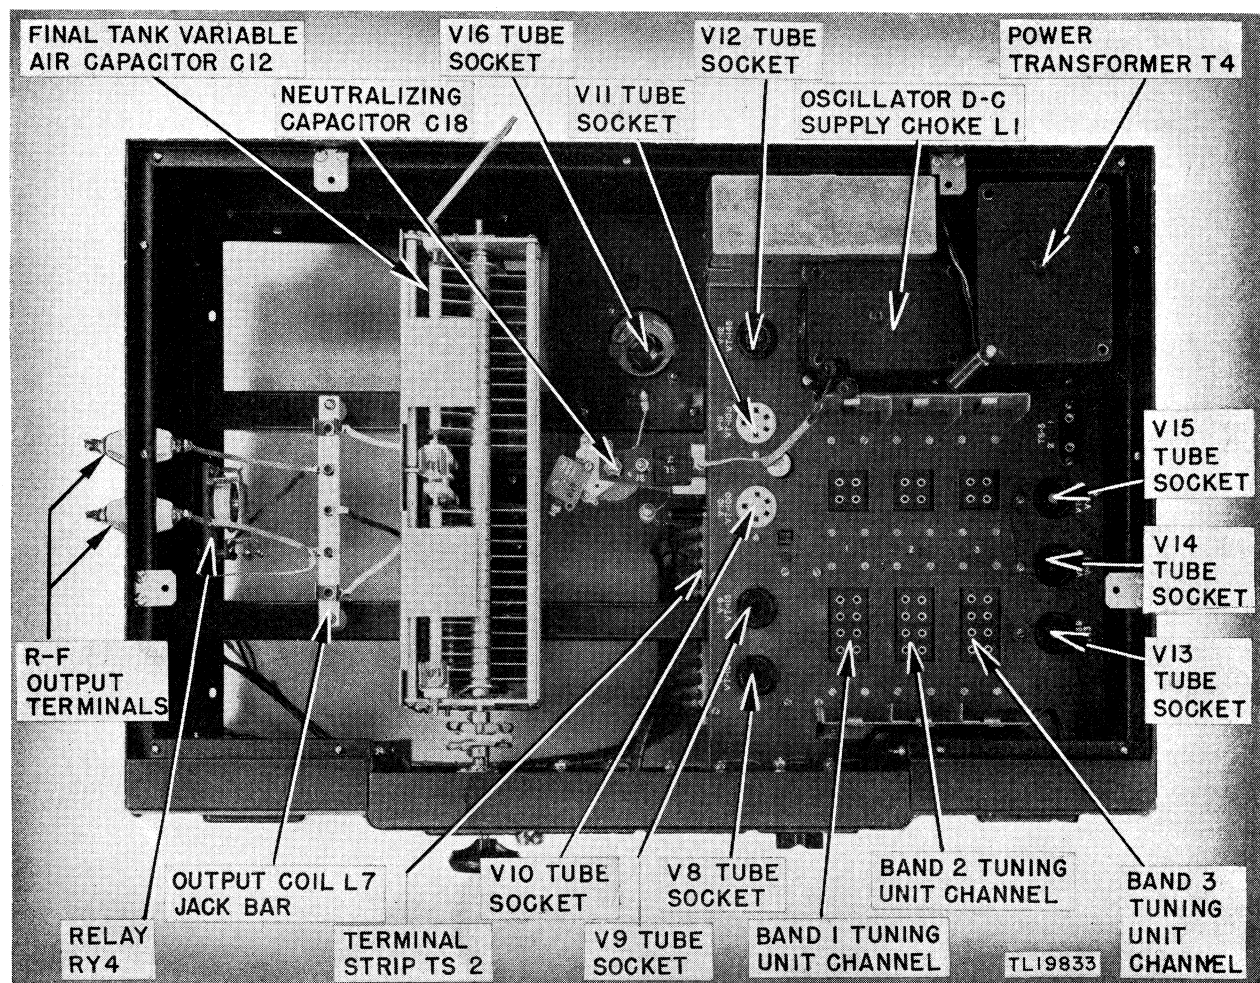
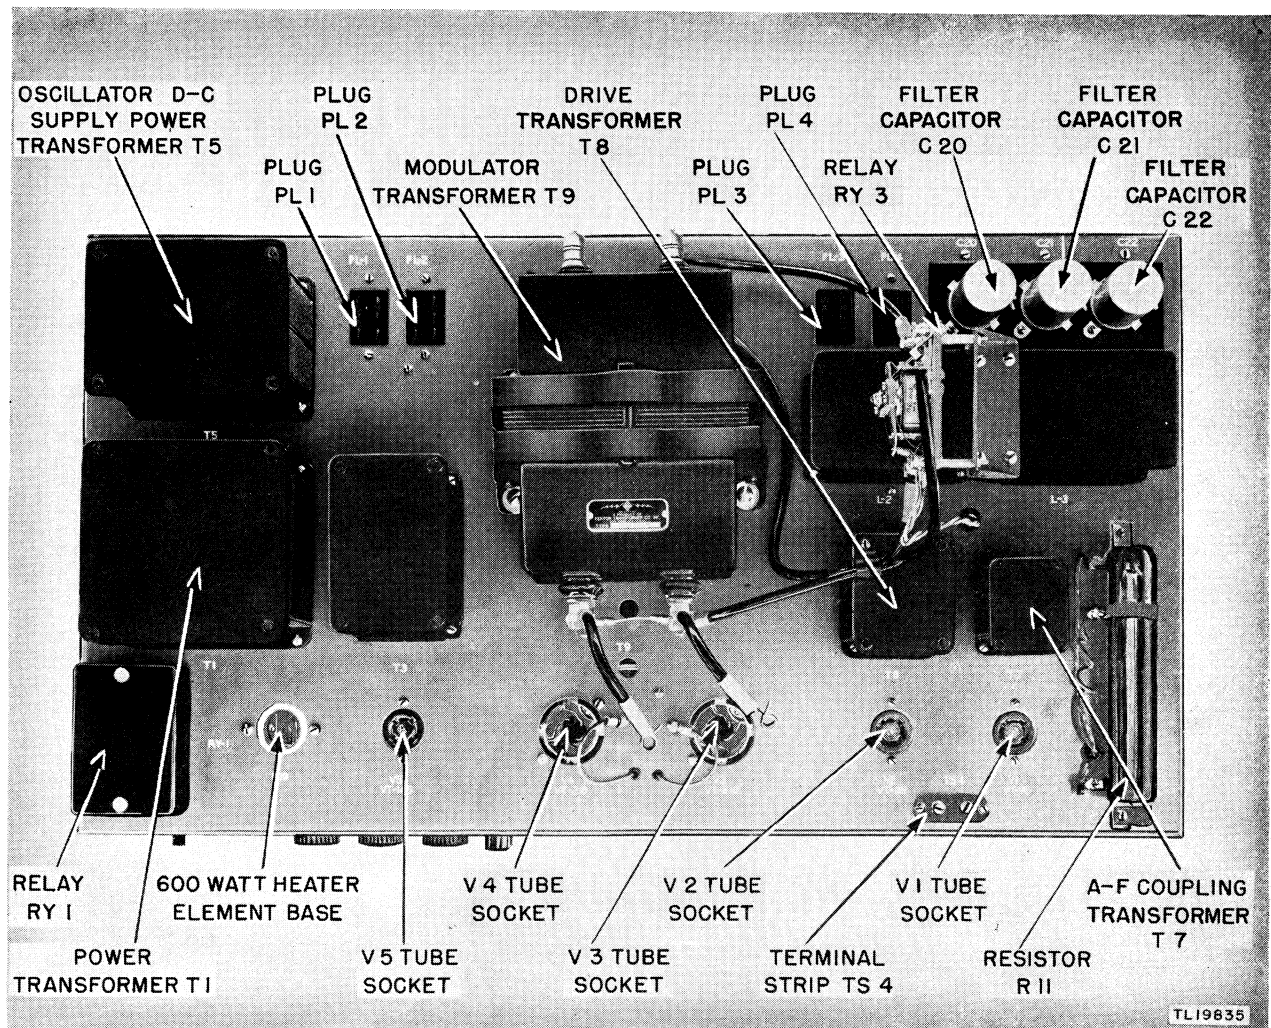

Figure 9. Radio Transmitter BC-610-A, -B, -C, and -D, r-f section, top view, less tubes, tuning units, coil unit, and vacuum capacitor.
Figure 11. Radio Transmitter BC-610-A, -B, and -C, modulator section, top view.
<p>ABCD</p> <p>M2, according to position of switch SW9, indicates plate current of buffer-doubler tube V9, and intermediate-amplifier tubes V10 and V11. (See figs. 9, 42, 43, and 44.)</p>	<p>E</p> <p>M2 (switch SW9 is not present) indicates plate current of p-a tube V16. (See figs. 9 and 45.)</p>
<p>ABCD</p> <p>M3 indicates filament voltage for p-a Tube V16. (See figs. 9, 42, 43, and 44.)</p>	<p>E</p> <p>M3 indicates same as ABCD. (See figs. 9 and 45.)</p>
<p>ABCD</p> <p>M5 indicates plate current of p-a tube V16. (See figs. 9, 42, 43, and 44.)</p>	<p>E</p> <p>M5 is omitted. (See fig. 45.)</p>
<p>ABCD</p> <p>Connection between resistors R26 and R27 is made through terminal 4 of terminal strip TS2 on models A and B, whereas the resistors are directly connected on models C and D. (See figs. 9, 42, 43, and 44.)</p>	<p>E</p> <p>Due to different meter arrangement, meter shunt resistors R28 and R33 are used in addition to resistors R26 and R27, and all four resistors are connected to socket SO11. (See fig. 45.)</p>
<p>ABCD</p> <p>Connection to terminal strip TS2 from the upper control panel for terminals 5, 6, 7, 8, 9, 10, 11, and 12 are made directly. (See figs. 9, 42, 43, and 44.)</p>	<p>E</p> <p>Connections to terminal strip TS2 from the upper control panel for terminals 5, 6, 7, 8, 9, 10, 11, and 12 are made through plug PL11 and socket SO11. (See fig. 45.)</p>
a. TUBES. (1) Tube JAN-250TH (V16) (VT-220) (fig. 9) and Tubes JAN-100TH (V3 and V4) (VT-218) (figs. 11 and 12). To remove tubes, disconnect grid connection from side of tube, and plate spring clip from top of tube; turn the tube counterclockwise until unlocked, and lift out of socket.
(2) *Tubes JAN-807 (V10 and V11) (VT-100) (fig. 9).* To remove tubes, disconnect plate spring clip from top of tube and lift tube out of socket. On Radio Transmitter BC-610-E, disconnect base clamps before lifting tube out of socket.
(4) *All other tubes (figs. 9 and 11).* To remove tubes, just pull them out of sockets.
b. OTHER PLUG-IN PARTS. (1) *Vacuum capacitors (figs. 9, 15, and 16).* To remove, grasp firmly the glass shell, but do not press excessively; release from spring clips, one clip at a time.
(7) *Plugs (figs. 11, 12, and 13).* To remove, grasp plug and pull out. Do not grasp the cord.
a. ACCESS TO CHASSIS. (1) Disconnect the pair of leads connected to TS5 on the r-f section.
b. PREPARATION FOR REPAIR WORK ON R-F SECTION (figs. 9 and 10). (1) Disconnect four wires which are tied into a small cable from the terminal strip TS1 on the r-f chassis apron.
(2) Disconnect both leads from the P. A. PLATE meter M5 (M2 on Radio Transmitter BC-610-E).
(3) Disconnect the twisted pair feeding the coil on the antenna change-over relay RY4.
(4) Disconnect the black heavy high-tension